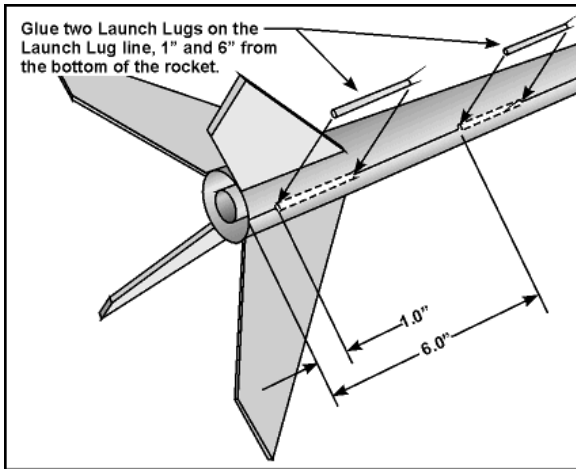

Figure 9
- Attach the two **Launch Lugs** to your model, on the Launch Lug Line, as shown in **Figure 9**. One Launch Lug should be 1" from the bottom of the Body Tube while the second one is 6" from the bottom of the Body Tube.